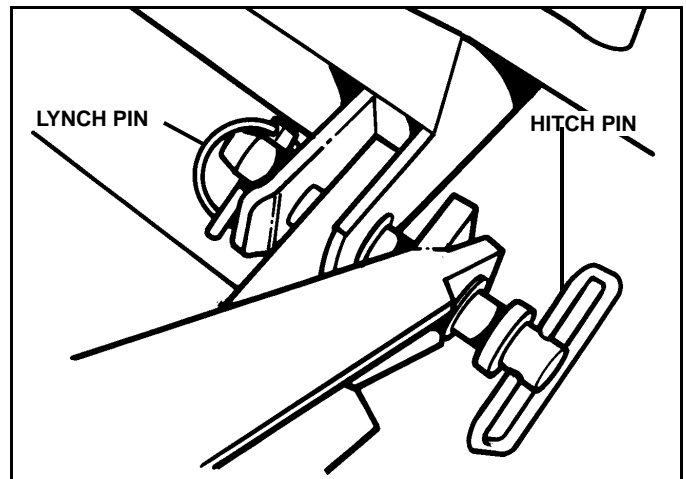

Figure 1-1
2. Align A-frame and vehicle mounting lugs and install two (2) lower outboard pivot Hitch Pins. Install Lynch Pins into Hitch Pins to secure them in place. (See Figure 1-1)